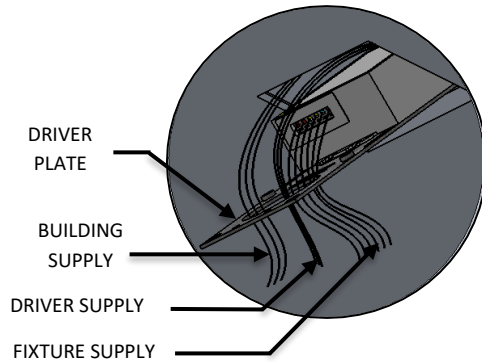

FIG. 25- DETAIL SHOWING BUILDING SUPPLY AND DRIVER WIRE
17. Slide DRIVER PLATE into the box with the DRIVER facing up. As you slide the plate into position, make sure you pull the BUILDING SUPPLY connections through the large hole in the DRIVER PLATE as shown below in FIG. 25 and other wires will already be through the center hole.